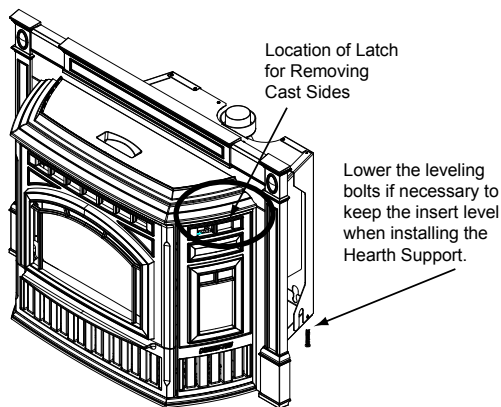

Figure 20.3 - Shown with Cast Panel Set
8. Remove both left and right cast sides from insert (**See Figure 20.3**).